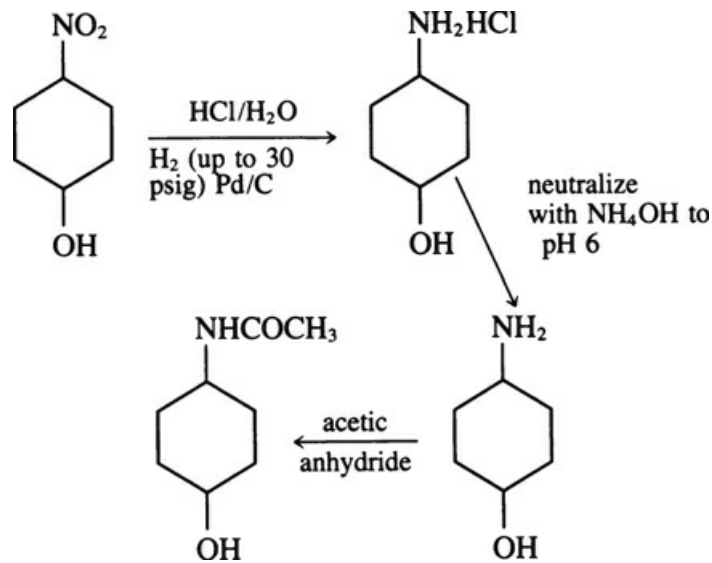

Figure P4.2.9
****4.2.9** One method of synthesizing the aspirin substitute acetaminophen involves a three-step procedure as outlined in Figure P4.2.9. First, *p*-nitrophenol is catalytically hydrogenated in the presence of aqueous hydrochloric acid to the acid chloride salt of *p*-aminophenol with an 86.9% degree of completion. Next, the salt is neutralized to obtain *p*-aminophenol with a 0.95 fractional conversion.